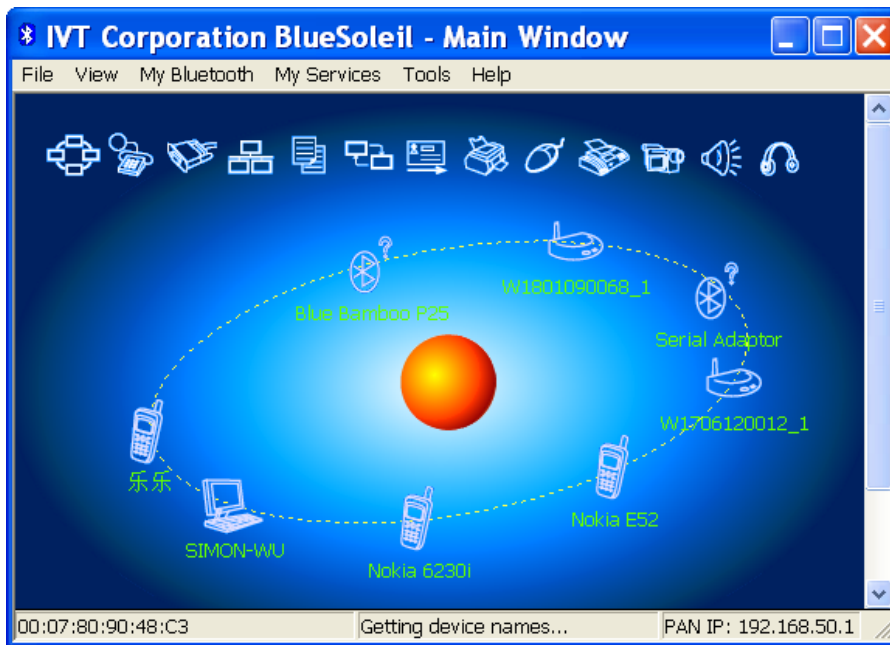

Figure 65
- b. After a few seconds, the application will find all available Bluetooth Devices in range and then a minute later will refresh the devices names as shown in Figure 65.